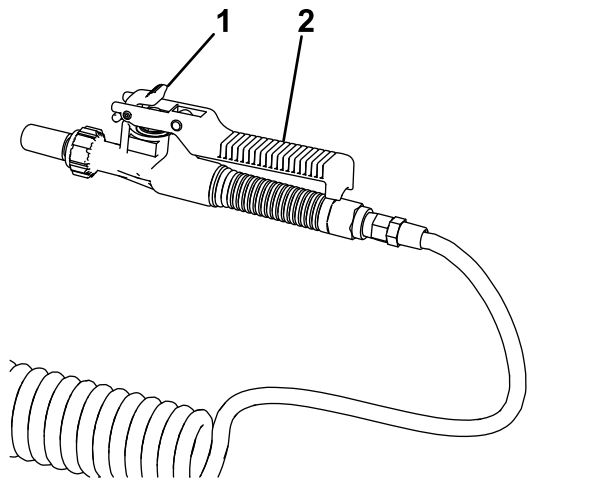

Figure 24
4. Squeeze the handle on the spray gun to begin spraying (Figure 24).